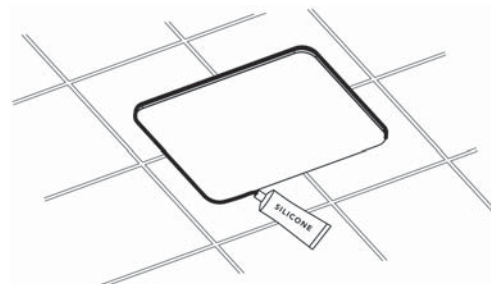

Figure 14
5. Apply a bead of silicone around the perimeter of the fixture (**Figure 14**) as required to create a moisture seal between the fixture and the steam room ceiling. Use tape or other means as required to keep the fixture in position as the silicone cures.